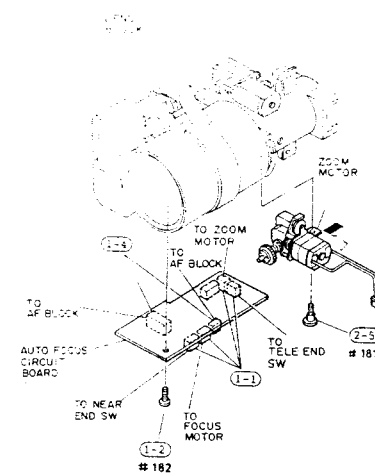

Fig. 2-101
- Disconnect four (4) connectors on the autofocus circuit board. (See Fig. 2-101)
- Remove one (1) screw holding the autofocus circuit board
- Unsolder two (2) connectors on the autofocus circuit board.
- Remove one (1) screw holding the zoom motor. (See Fig. 2-101)